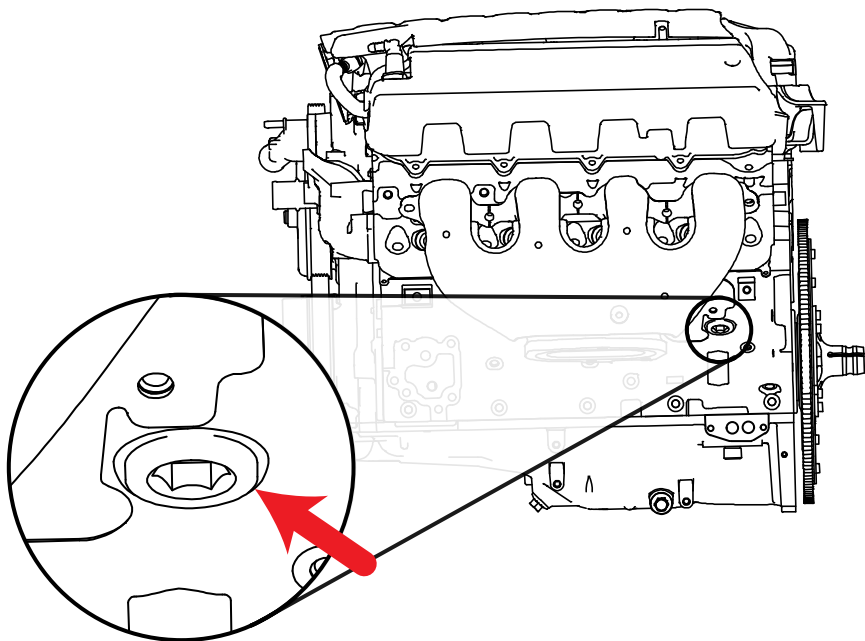

Figure 2 - Plug the coolant port on the engine block
7. Use a 17mm hex tool to plug the engine block coolant passage with the GM engine block coolant plug supplied with the EC7-681 Delete Kit, shown in Figure 2.